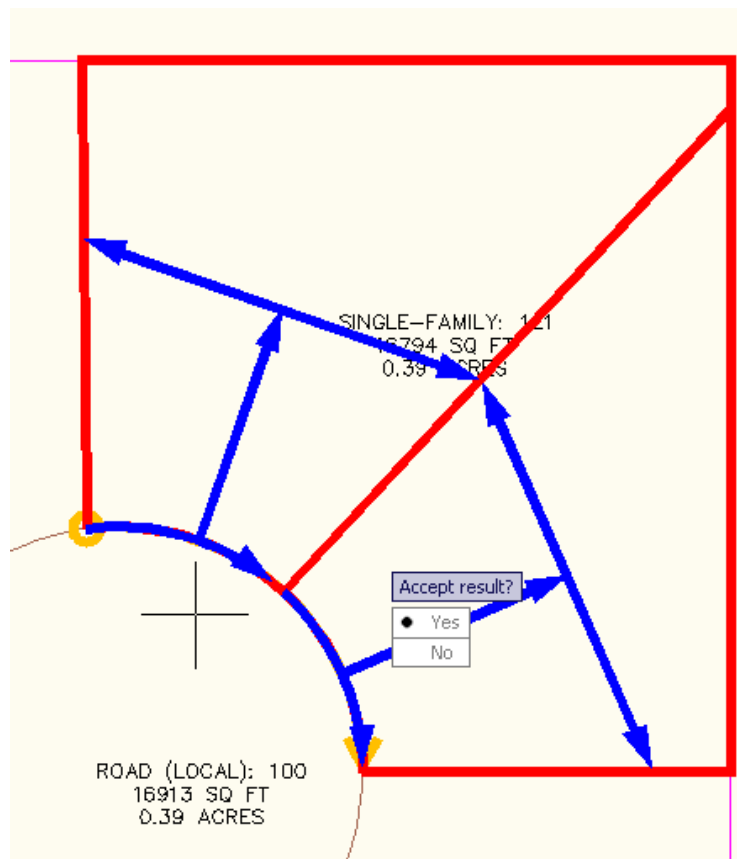

Figure 10: Proposed solution using maximum depth criteria
- 9 Preview graphics display if the proposed solution is correct as shown in figure 10. Accept the resulting solution or enter No to end the command so that you can adjust the sizing parameters. Figure 10 displays preview graphics with Automatic mode turned on.